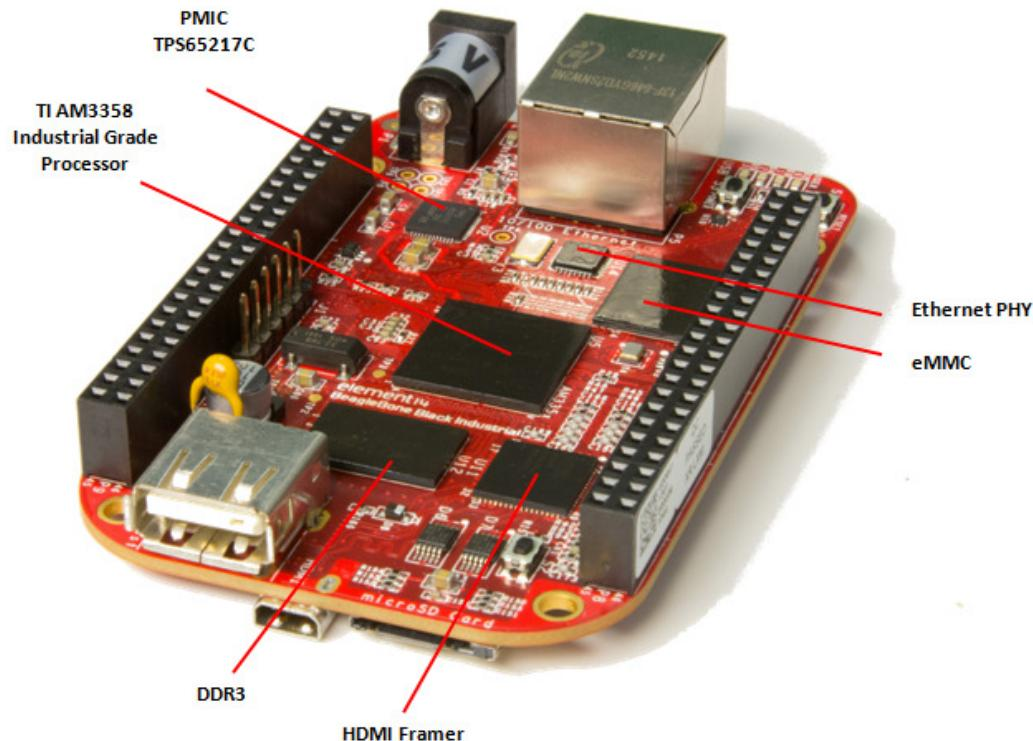

Figure 18      Key Components
**Figure 18** below shows the locations of the key components on the PCB layout of the board.